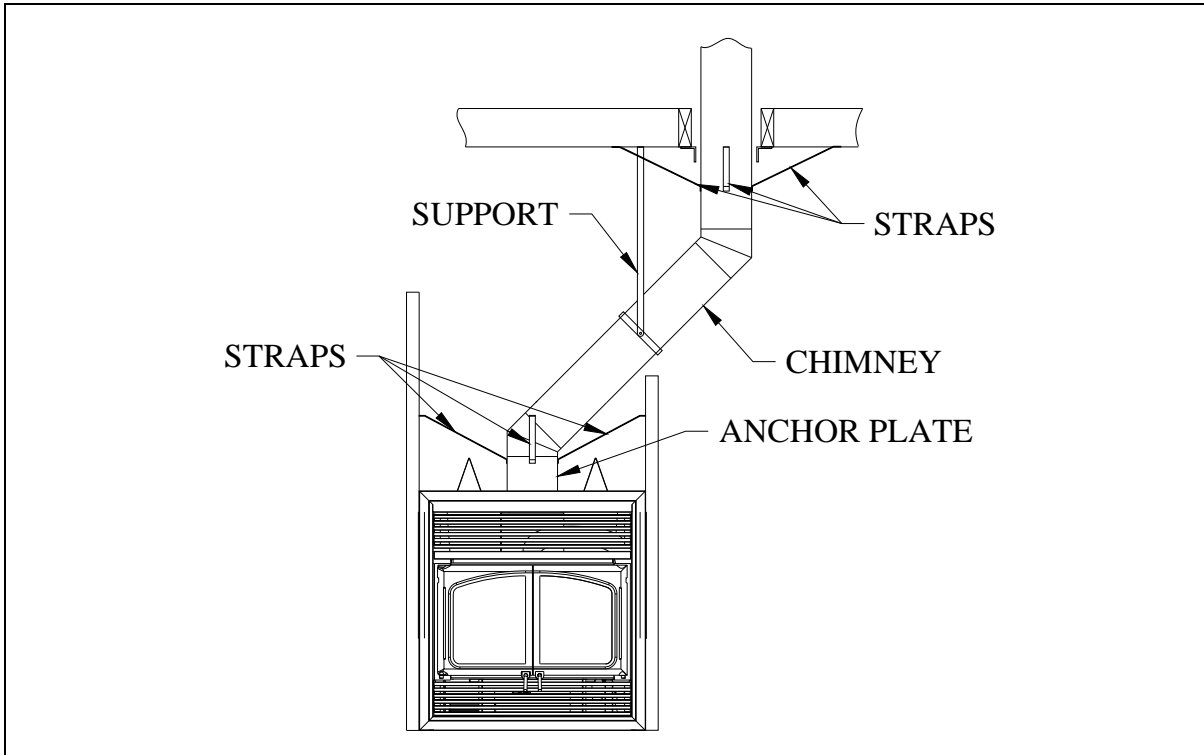

Figure 25
1. Install the first elbow; turn it in the required direction. Secure it to the chimney according to the chimney manufacturer's instructions. In many cases, it is recommended to secure connections with three (3) ½" (12 mm) metal screws.
2. Install the necessary chimney lengths to achieve the required offset. Lock the chimney lengths together according to the chimney manufacturer's instructions. In many cases, it is recommended to use three (3) ½" (12 mm) screws. If the offset length is made of two (2) chimney lengths or more, many chimney manufacturers may require that you use an offset or roof support halfway up the offset. If penetrating a wall, install a wall radiation shield supplied by the chimney manufacturer (see figures 25 & 26).